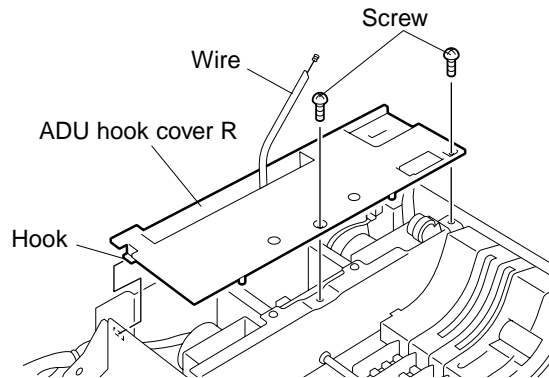

Fig. 6-10
4. Detach ADU cover. (See Fig. 6-10 to 6-12)
5. Detach ADU cover. (See Fig. 6-10 to 6-12)
- Detach ADU cover. (See Fig. 6-10 to 6-12)